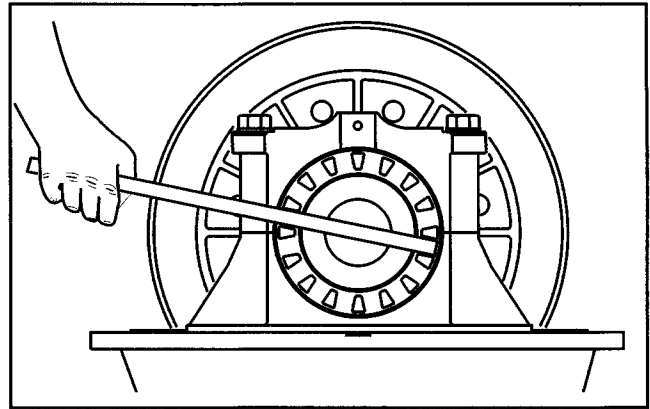

Figure 25
4. Loosen adjusting ring on tooth side of ring gear, and tighten adjusting ring on flange side of ring gear, equal amounts until backlash is eliminated. Tighten adjusting ring on tooth side of ring gear 2-3 notches or until proper backlash and side bearing preload are established. Ring gear to pinion backlash is .008-.012 in. (.20-.30 mm). (See Figure 25)